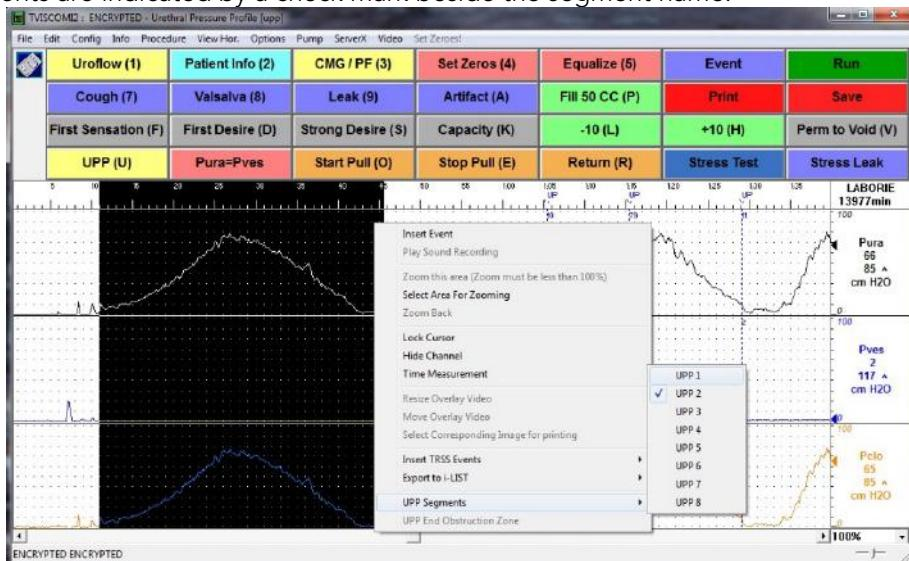
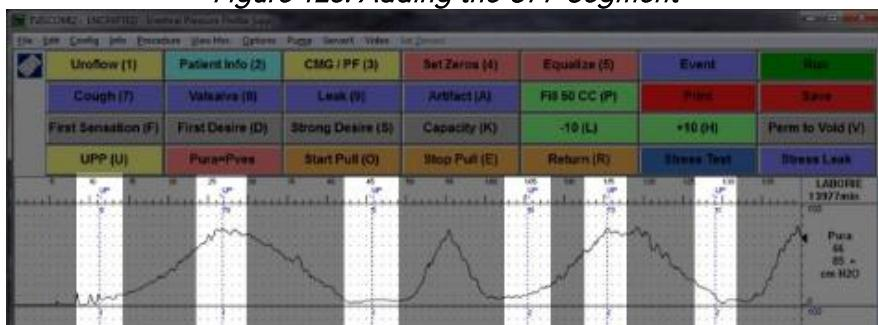

Figure 123: Adding the UPP Segment
Figure 124: UPP Events Added
- Click **UPP Segments** in the context menu and select an unused UPP Segment. UPP Start, UPP Peak, and UPP Stop events are added to the graph for that pull (Figure 124). Figure 123 shows remarking of UPP 1.